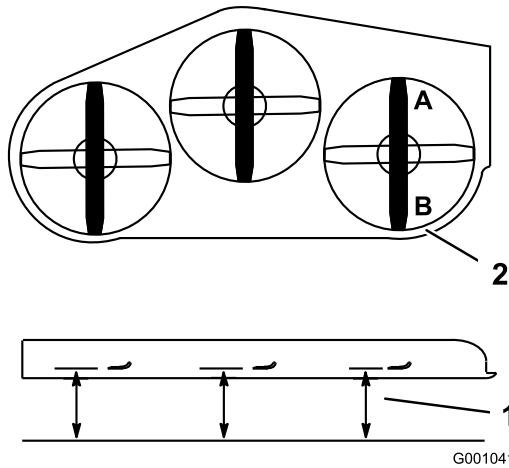

Figure 85
1. Position the right blade front-to-rear (Figure 85).
2. Measure the right blade at the **A** location, from a level surface to the cutting edge of the blade tip (Figure 85).
4. Measure the right blade at the **B** location, from a level surface to the cutting edge of the blade tip (Figure 85).
6. The mower blade should be a 6 to 10 mm (1/4 to 3/8 inch) lower at position **A** than at position **B** (Figure 85). If it is not correct, proceed to the following steps.